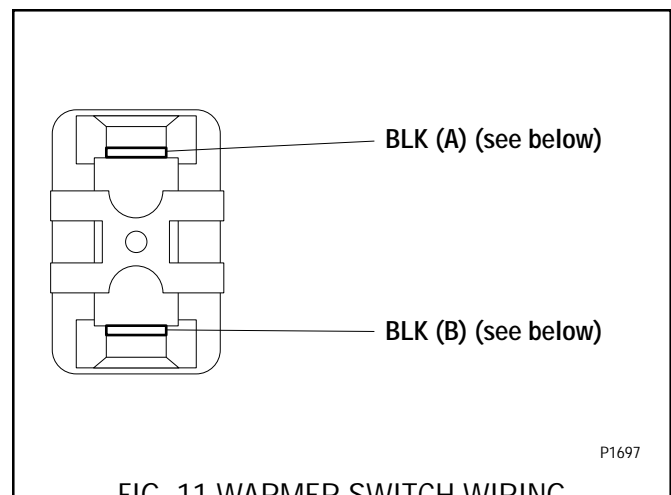

FIG. 11 WARMER SWITCH WIRING
3. Refer to FIG. 11 when reconnecting the wires.